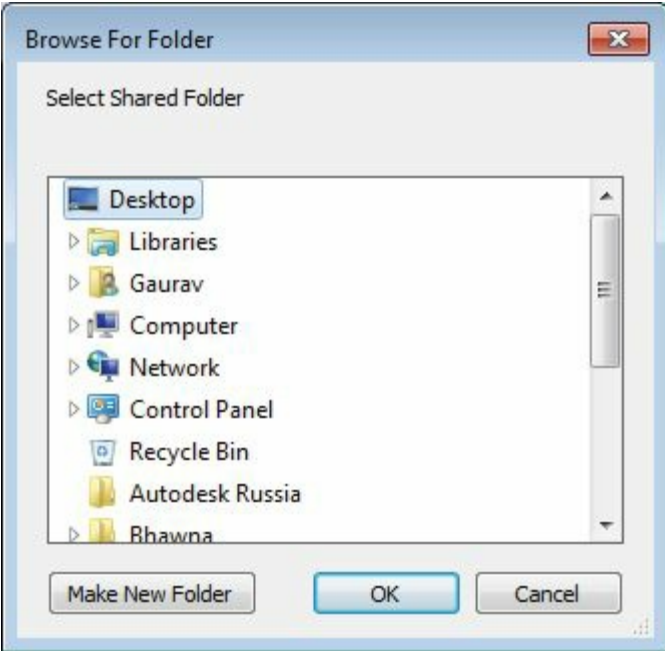

Figure-5. Browse For Folder dialog box
- Click on the ellipse button (  ) to browse for shared folder. The **Browse For Folder** dialog box will be displayed; refer to Figure-5.